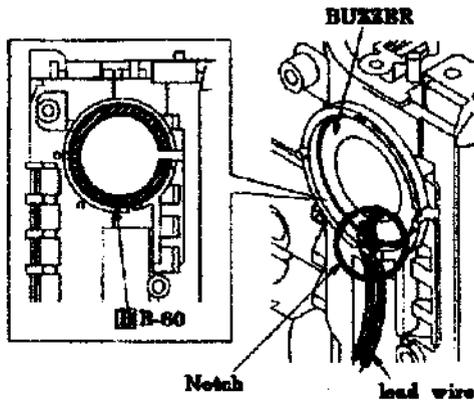

Fig. 2
1. Setup the camera as Fig. 2.
■ Fig. 2